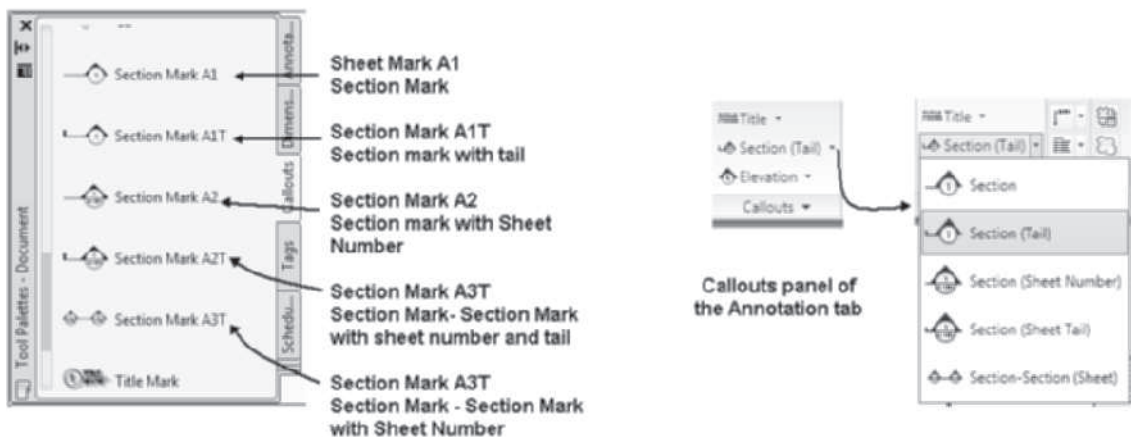

FIGURE 12.26 Section marks located on the Callouts palette
The procedure to create a section is similar to creating an elevation. The section marks are located on the Callouts tool palette and the Section flyout of the Callouts panel as shown in Figure 12.26. The procedure to place the **Section Mark A1** is shown below.
3. Select **Section** from the Section flyout of the **Callouts** panel of the Annotate tab in Figure 12.26, and respond to the workspace sequence as shown below: